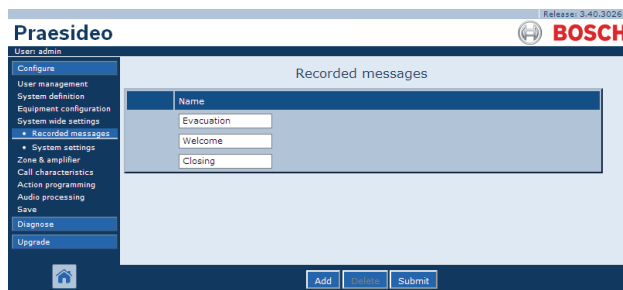

figure 45.8: Register message, step 4
- 4 Click the *OK* button to confirm that the message must be deleted from the list. A screen similar to the one in the figure 45.8 appears in the main frame of the web interface.